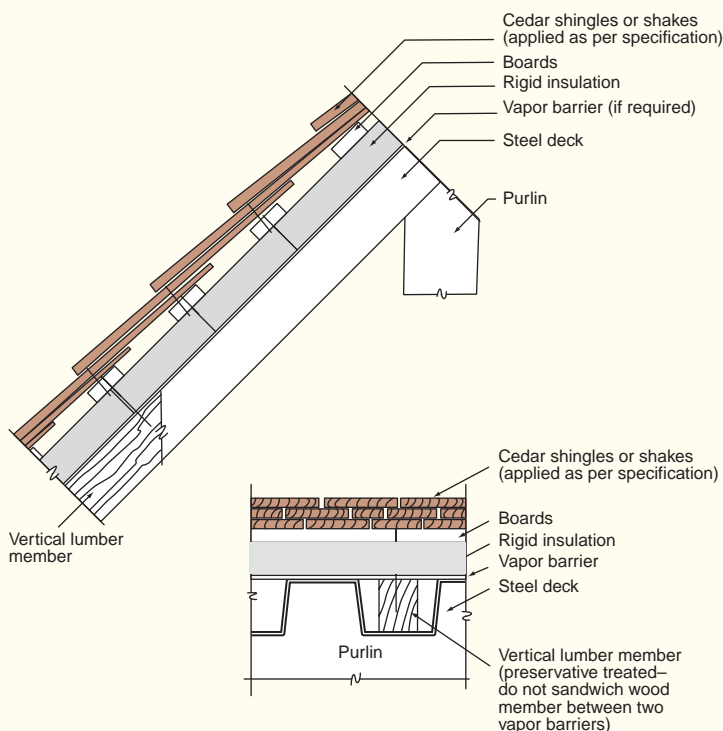

Fig. 18: Specialty Roof Deck – Steel Roof
1. On a corrugated deck, vertical lengths of lumber are fastened to the deck and horizontal boards or panels are applied across the vertical pieces. If insulation is required, it is best placed on top of the vertical members, held in place by the nails fastening the boards or panels to the members (Figure 18).